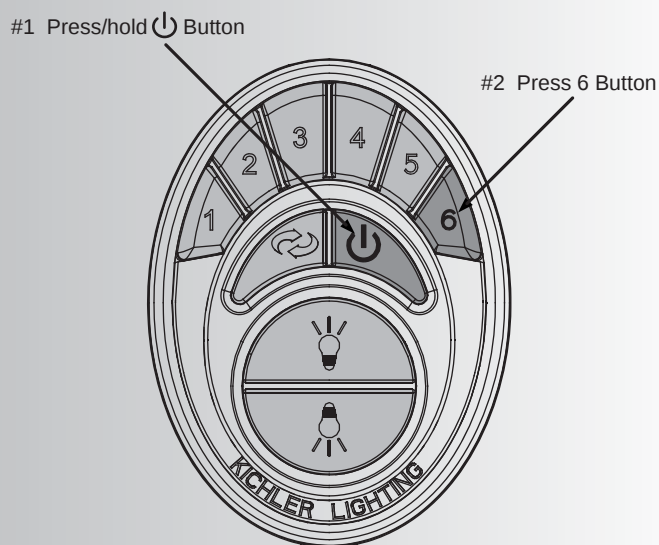

Fig. 22
4. Turn the power on, press and hold the [Power Button] button until the ceiling fan light blinks twice (Figure 22)
6. After the ceiling fan light blinks twice, press and release the High Speed (6) Button. Let the ceiling fan run for a minimum of 90 seconds (1 ½ minutes). The control system will do another self check, initialize all operational functions and complete the programming process (Figure 22).